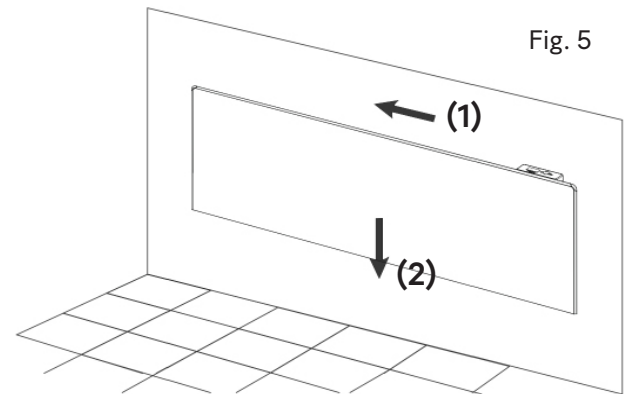

Fig. 5
- To attach the unit: move the convector to the left (1) and downwards (2), so that the screws end up in the top position. (Fig. 5)